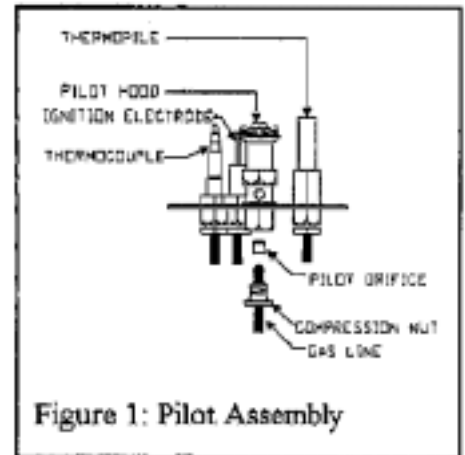

Figure 1: Pilot Assembly
6) Put in the new (.51 mm) NG orifice on top of the pilot line and gently insert the pilot line and orifice into the pilot assembly as shown in figure 1. Be sure to check that the new (.51mm) orifice has not been plugged or damaged in any way.